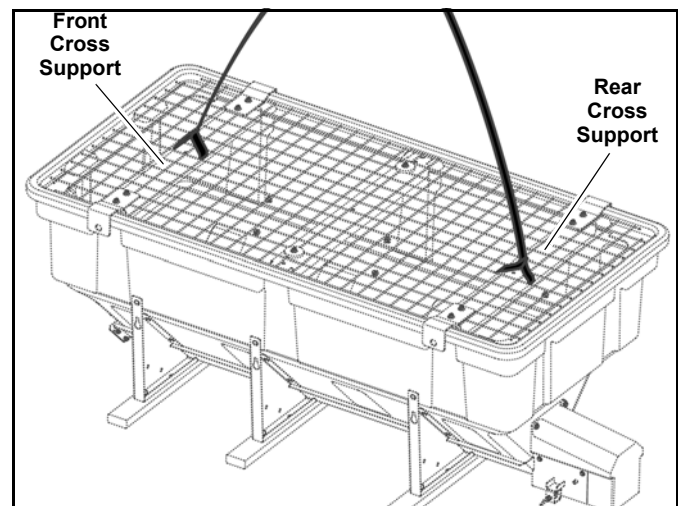

Figure 1-9
2. Attach two lift straps through the top grate to the front and rear spreader cross supports (See Figure 1-9).